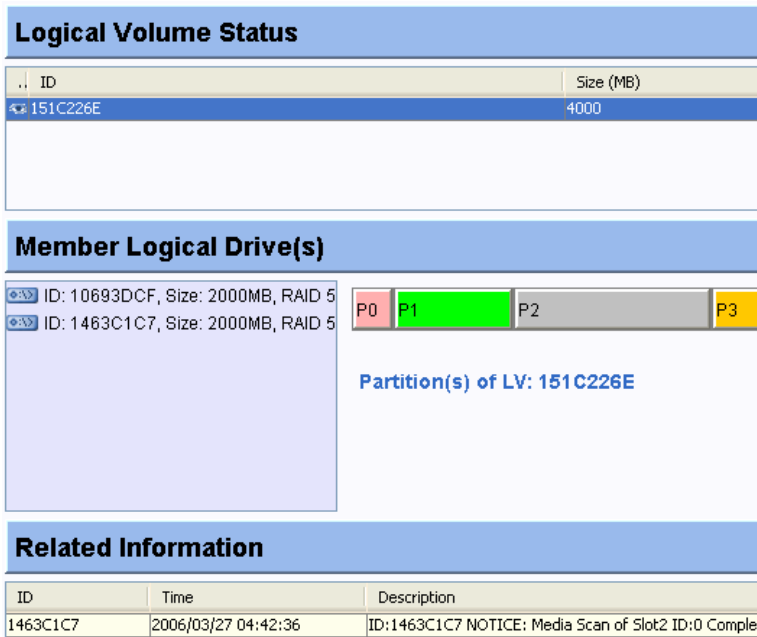

Fig. 11.9 Opening Logical Volume Information Display
1. To access the *Logical Volume Information*, single-click its display icon on the navigation panel or select the command from the *Action* command menu. After opening the information window, select a logical volume by single mouse-click. The window defaults to the first volume on the list. A display window as shown in *Figure 11.9* should appear.